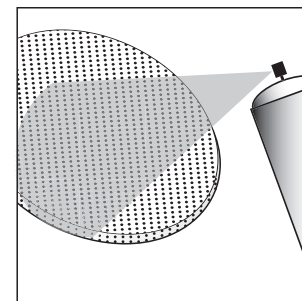

Figure 9—Paint the grille. Use thin coats of spray paint. Do not block grille holes with paint.
5. Spray on two thin coats of finish color. If you're using a compressor and spray gun, use the finest, most diffuse setting. Be careful not to fill the holes in the grille with paint (figure 9).